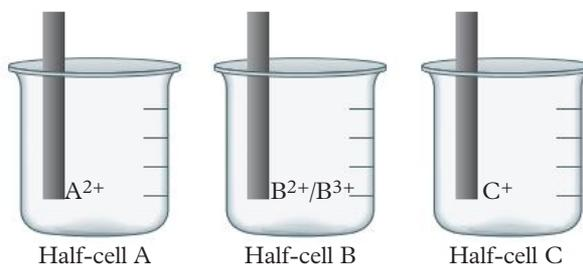

FIGURE 1 Three half-cells
- Three half-cells A, B and C were constructed from unknown solutions according to the diagrams in Figure 1.